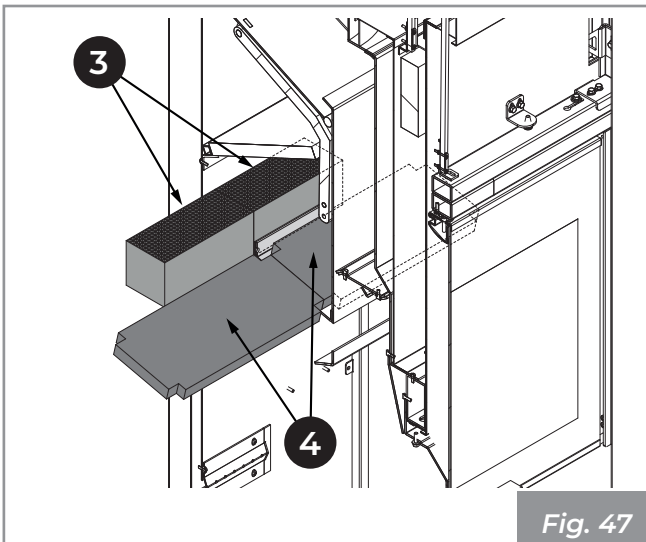

Fig. 47
- 6) Slide out and extract the panels (4) (Fig. 47).
7) Slide out and extract the O-RING (3) (where included).